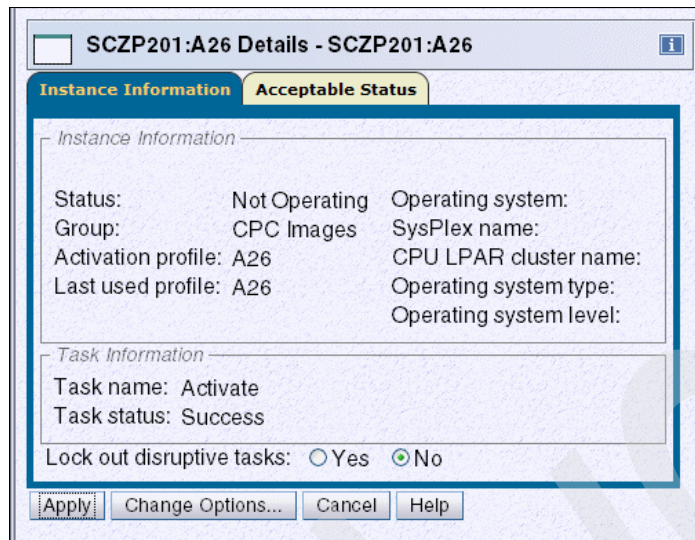

Figure 9-18 HMC - Details after activating a new logical partition
3. Check that the activation task completed successfully. The status should have changed from Not Activating to Not Operating in the detail information of the target logical partition (Figure 9-18).